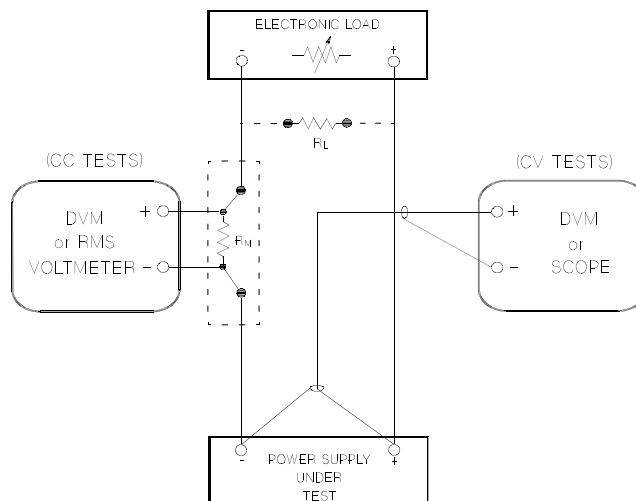

Figure 3-1. Performance Verification Test Setup
To eliminate output current measurement error caused by the voltage drops in the leads and connections, connect the current monitoring resistor between the (-) output terminal and the load as a four-terminal device. Connect the current-monitoring leads inside the load-lead connections directly at the monitoring points on the resistor element (see R_M in Figure 3-1).
- 1 Turn off the power supply and connect a digital voltmeter between the (+) and (-) terminals of the output to be tested as shown in Figure 3-1.
- 4 Operate the electronic load in open mode (input off). Record the output voltage reading on the digital voltmeter again. The difference between the digital voltmeter readings in steps (3) and (4) is the CV load regulation. The difference of the readings should be within the limit specified below for each output tested.
- 6 Adjust the autotransformer to high line voltage (127 Vac for nominal 115 Vac, 110 Vac for nominal 100 Vac, or 253 Vac for nominal 230 Vac). Record the voltage reading on the digital voltmeter. The difference between the digital voltmeter readings in steps (5) and (6) is the CV line regulation. The difference of the readings should be within the limit specified below for each output tested.
- 1** Turn off the power supply and connect the output to be tested as shown in Figure 3-1 to an oscilloscope (ac coupled) between (+) and (-) terminals. Set the oscilloscope to AC mode and bandwidth limit to 20 MHz. Connect a resistive load (1.2 Ω for +6V supply and 25 Ω for \pm 25V supplies) as shown in Figure 3-1 (see Table 3-2).
- 6** Repeat steps (1) through (5) for the remaining outputs.